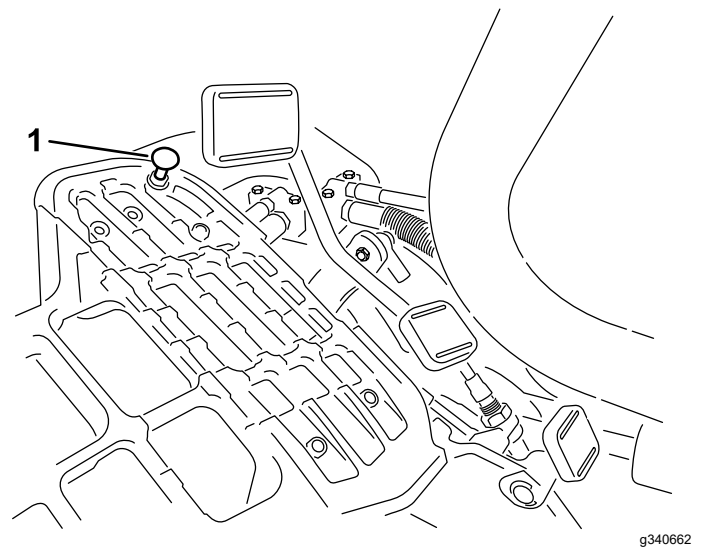

Figure 39
To obtain the maximum-transport speed, put the functional control lever in the TRANSPORT position and press down on the traction pedal. If the pedal contacts the stop (Figure 39) before you feel tension on the cable, perform the following adjustment procedure:
1. Put the functional-control lever in the TRANSPORT position and loosen the locknut securing the pedal stop to the floor plate (Figure 39).